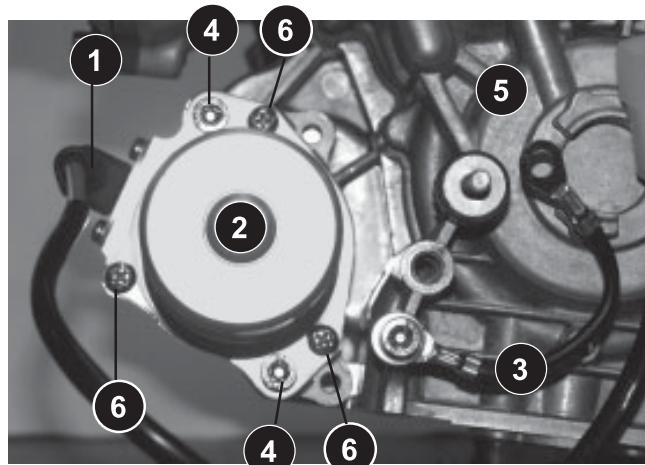

Fig. 61
- ⇒ Undo the 2 Allen screws (Item 4) and remove the starter housing from the crank and gearbox housing (Item 5), see Fig. 61.